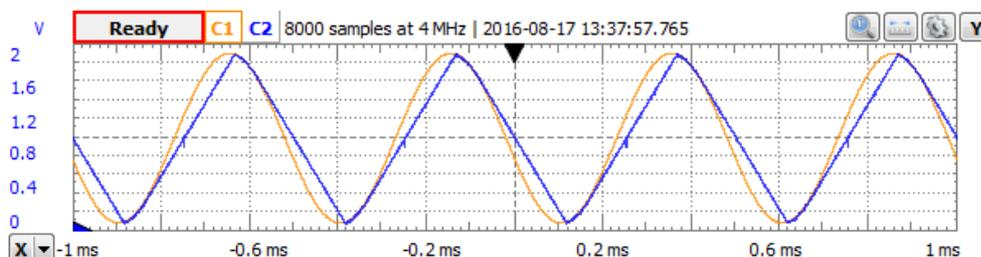

Figure 6.17 Unipolar Up/Down Counter ADC – 2kHz re-constructed signal
- Doubling the frequency of V_{in} shows the Up/Down Counter ADC limitation, as in Figure 6.17: V_{in} is changing faster than (6.14), so V_{cmp} cannot follow it effectively. Due to condition (6.14), the Up/Down Counter ADC performance is close to the regular Counter ADC.
Double the frequency of V_{in} to see the Up/Down Counter ADC limitation, as in Figure 6.17.